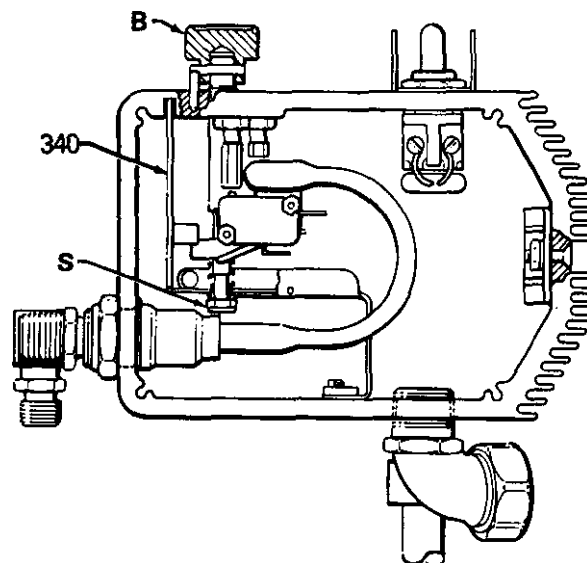

Fig 24
3. Remove the plug from the top of the fluid filter, and install the test gauge (W).
6. Use a 9 mm (3/8") ignition wrench to turn the pressure adjustment nut (S) counterclockwise about **two** full turns. See Fig 24.
7. With the pressure control knob (B) at the **minimum** setting, turn the sprayer switch ON.